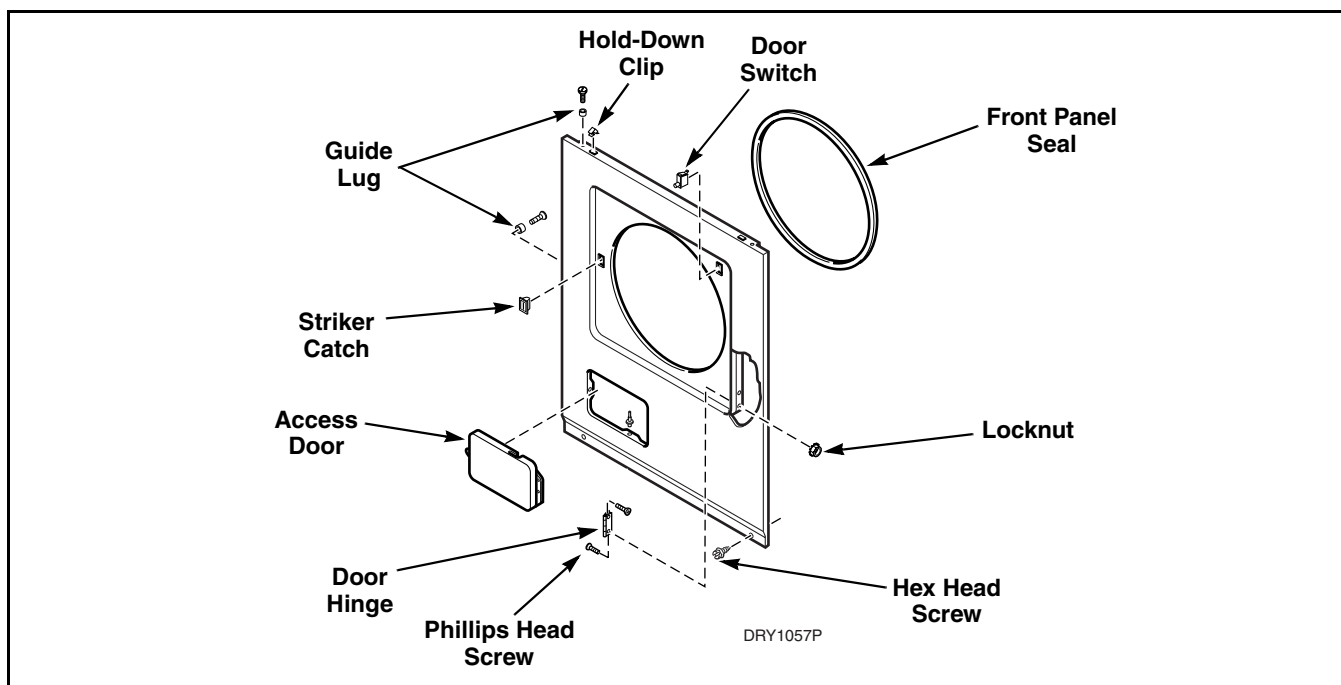

Figure 9
Refer to Figure 9
- b. Depress tabs on top and bottom of catch and push out of front panel. Refer to *Figure 9*.
- c. Remove four Phillips head screws and locknut holding hinges to front panel. Refer to *Figure 9*.
Refer to *Figure 9*
- c. Remove four screws holding four guide lugs to front panel, *Figure 9*.